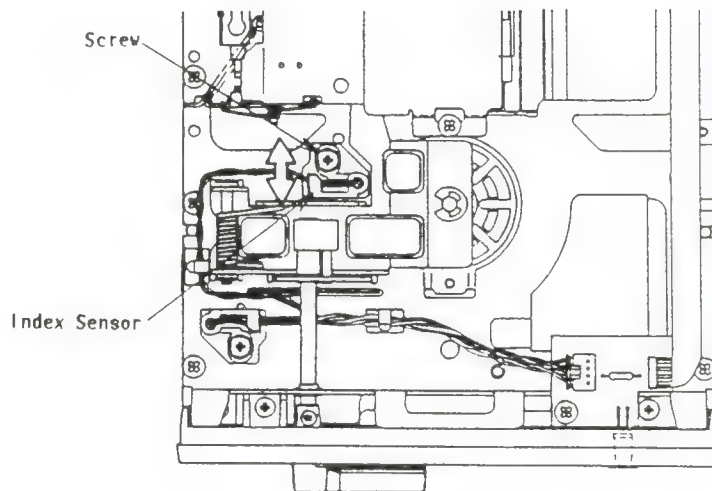

Fig. 5-5 Index Burst Time Adjustment
- Move the head to track 34 and check the index burst time of the top and bottom heads. Adjust if the timing of one of the top or bottom head is not as shown in Fig. 5-5.